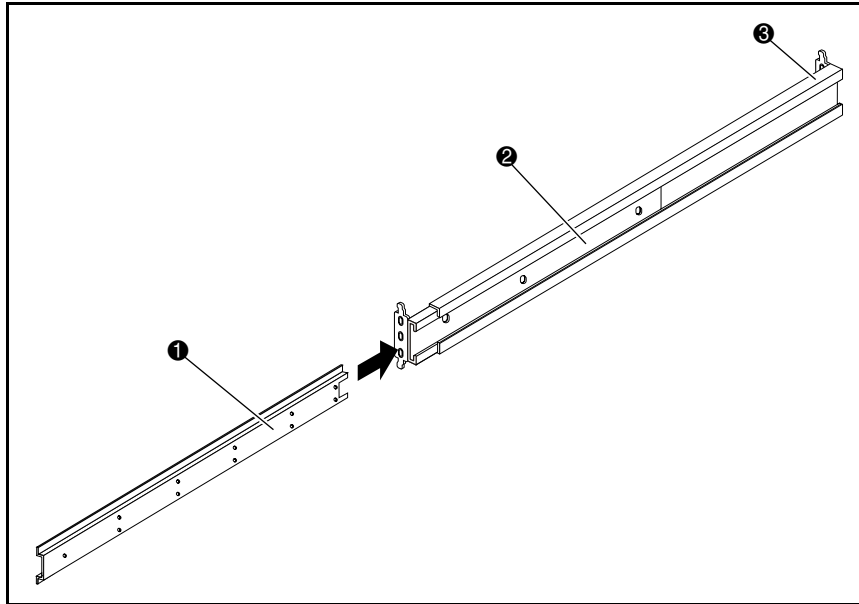

Figure C-6. Rackmount slide parts
1. Identify the parts of the rackmount slide assembly (see Figure C-6 and Table C-1).